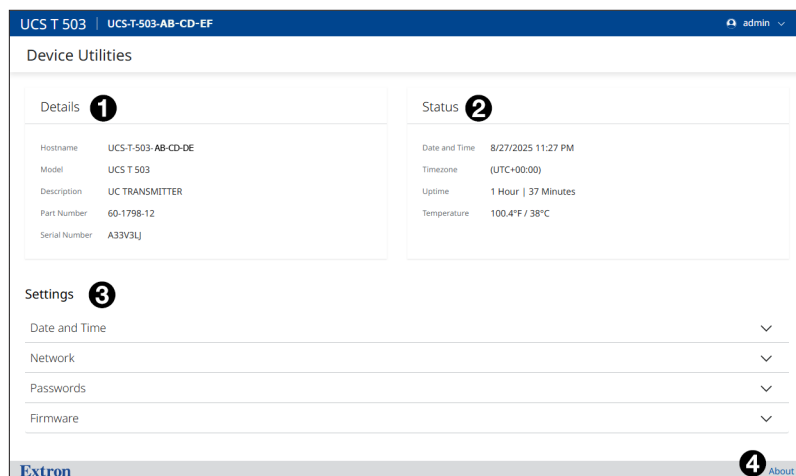
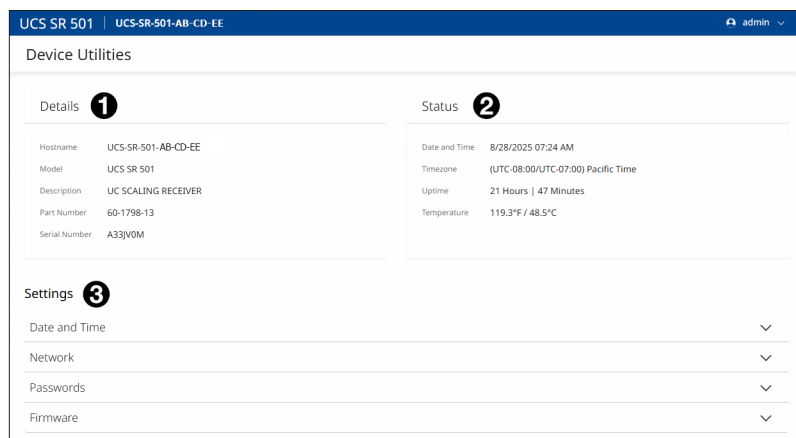

Figure 44. UCS T 503 Device Utilities Page
Figure 45. UCS SR 501 Device Utilities Page
The Device Utilities Page opens. It is very similar for the UCS T 503 (see figure 44) and UCS SR 501 (see figure 45).
- Details (see figure 44, **1**, on page 50) is a read-only section that provides information about the device Hostname, the Model name, The device Description, the device Part Number, and the device Serial Number.
1. Click Date and Time (see figure 44).
1. Click the **Network** (see figure 44, 3, on page 50).
1. Click the **Passwords** (see figure 44, ③ on page 50).